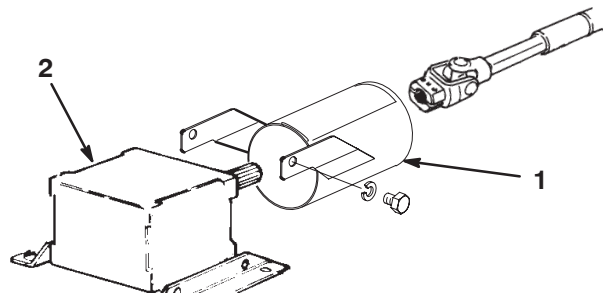

Figure 7
- Remove the 2 capscrews and lock washers securing the PTO guard mounting brackets to the gear box (Fig. 7). Retain the fasteners for future installation.
- Slide the PTO shaft guard onto the PTO shaft, positioning the guard as shown in Figure 7.